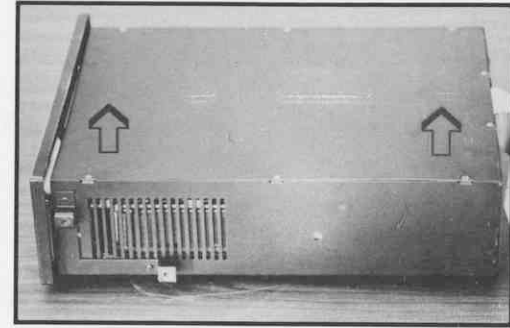

Figure 100 Inner Cover Removal
- 6.43 Lift the inner cover off the Subsystem unit (Figure 100).